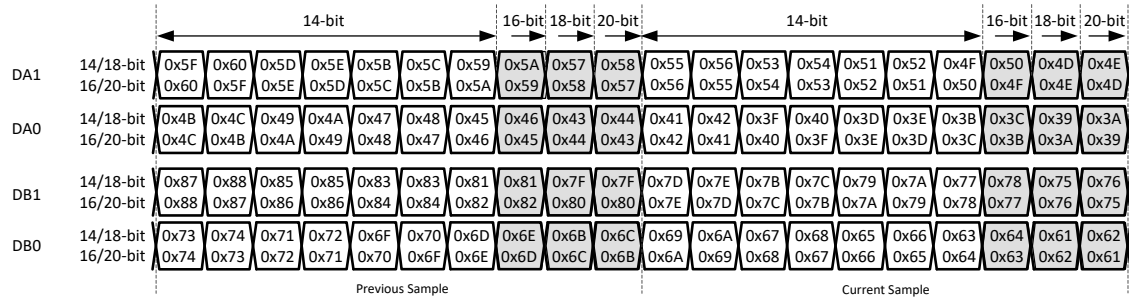

图 8-43. 2-wire output bit mapper
**2-wire mode:** in this mode both the current and the previous sample have to be used in the address space as shown in 图 8-43. The address order is different for 14/18-bit and 16/20-bit. Note: there are unused addresses between samples for resolution less than 20-bit (gray back ground), which can be ignored if not used.